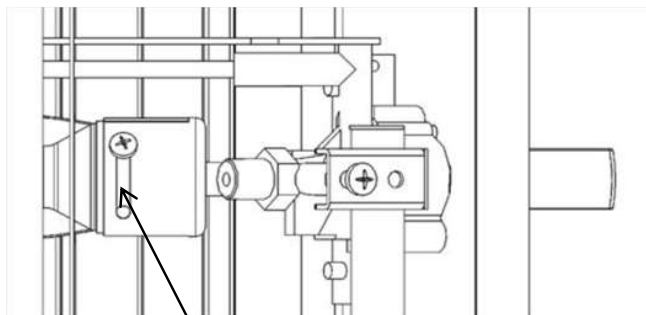
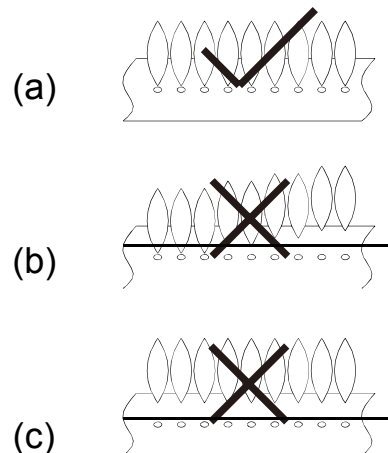

Fig.27 Air Shutter
Fig. 28 Acceptable Flame only (a)
- The shutters are located on the end of the gas burners underneath the firebox. See Fig.27.
Refer to Fig. 27 and Fig. 28. After positioning the tank in the opening, lift up the gas cylinder safety stop to lock the tank. Use only 20 lb. gas tank (see LP Gas Safety Requirements for Additional Information).